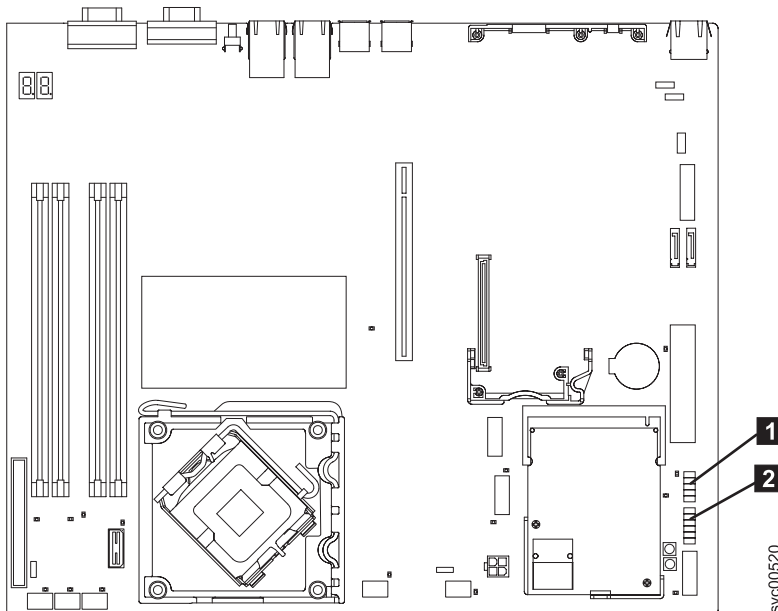

Figure 234. Connectors for the operator-information panel on the SAN Volume Controller 2145-8A4 system board
7. The operator-information panel cable consists of two thick cables and a number of thinner cables that are bundled together and routed through the chassis. It provides connectivity for the operator-information panel and the front USB ports. Trace this cable assembly through to the right side of the system board (next to the power supply) and disconnect the Front USB connector **1** and the operator-information panel connector **2** from the system board shown in Figure 234.